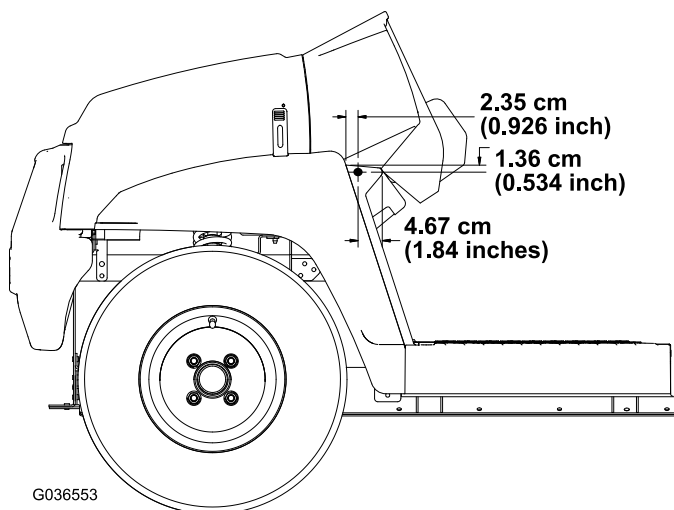

Figure 4
3. Using the dimensions shown in Figure 4, drill 1 hole (5/16 inch) into the outside of the footboard on the left and right sides of the machine.